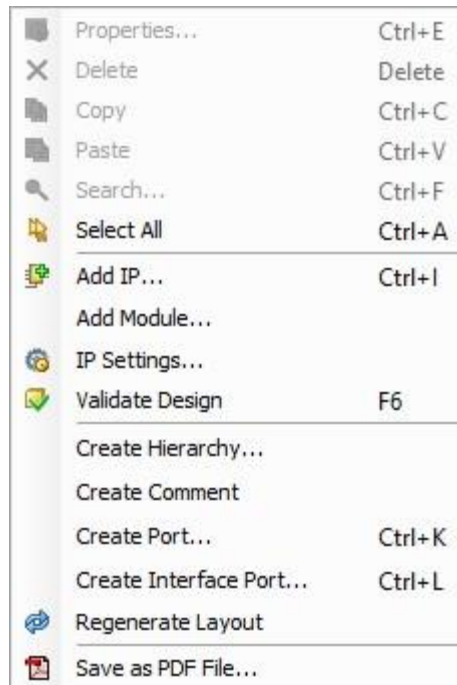

Figure 5: Add IP.
3. Right-click in the Vivado IP Integrator workspace, and select **Add IP** (Figure 5).